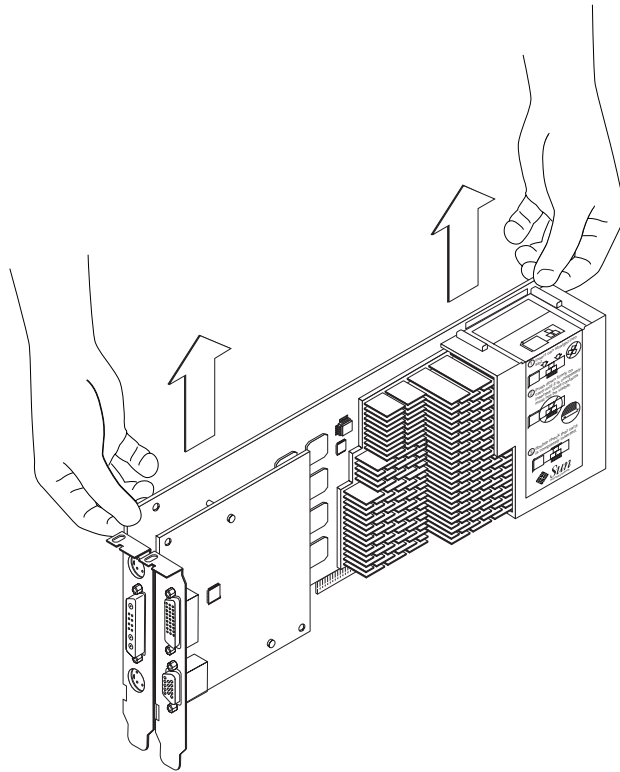

FIGURE 3-2 Removing the Sun XVR-1000 Graphics Accelerator
3. Holding the two upper corners of the graphics board, carefully push the board straight down into the UPA bus connector until the board is fully seated (FIGURE 3-2).
2. Remove the Sun XVR-1000 graphics accelerator by pulling on the ends and gently rocking the board until you remove the graphics board from the UPA slot (FIGURE 3-2).